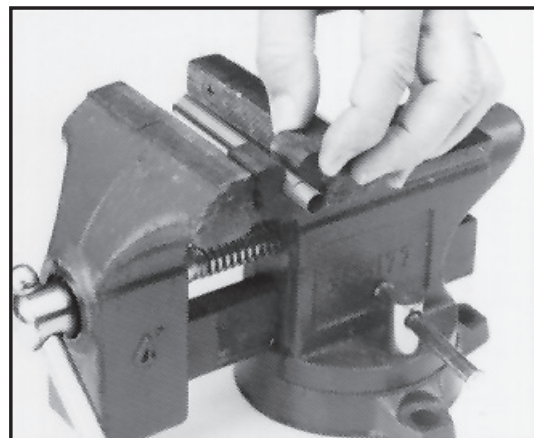

Figure 8 - Cut Tube Using Vise
5. Insert the tube to be cut into the rubber vise clamp (provided), with the mark just beyond the clamp. Then firmly clamp the rubber vise clamp in a vise. (See Figure 8.) Use the saw to cut the tube where marked. Be careful to keep the cut as straight as possible. Remember the saw only cuts when pushing. Trying to cut while pulling may pull the handle off of the saw blade.